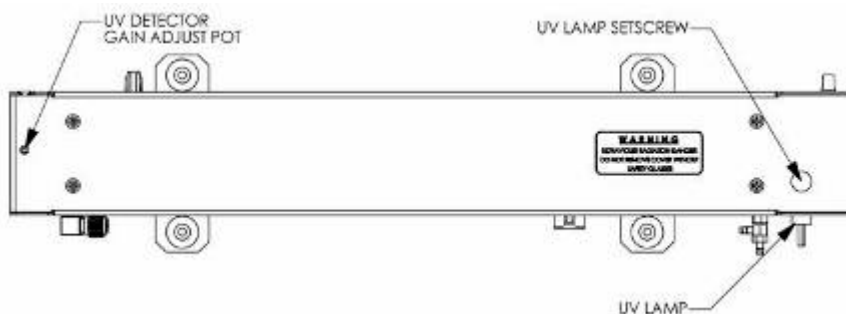

Figure 8-5: Photometer Assembly – Lamp Adjustment / Installation
4. Locate the UV detector gain adjust pot on the photometer assembly (see Figure 8-5).
4. Locate the UV lamp at the front of the optical bench assembly (see Figure 8-5).
9. Turn the UV detector gain adjustment pot (See Figure 8-5) clockwise to its minimum value. The pot may click softly when the limit is reached.